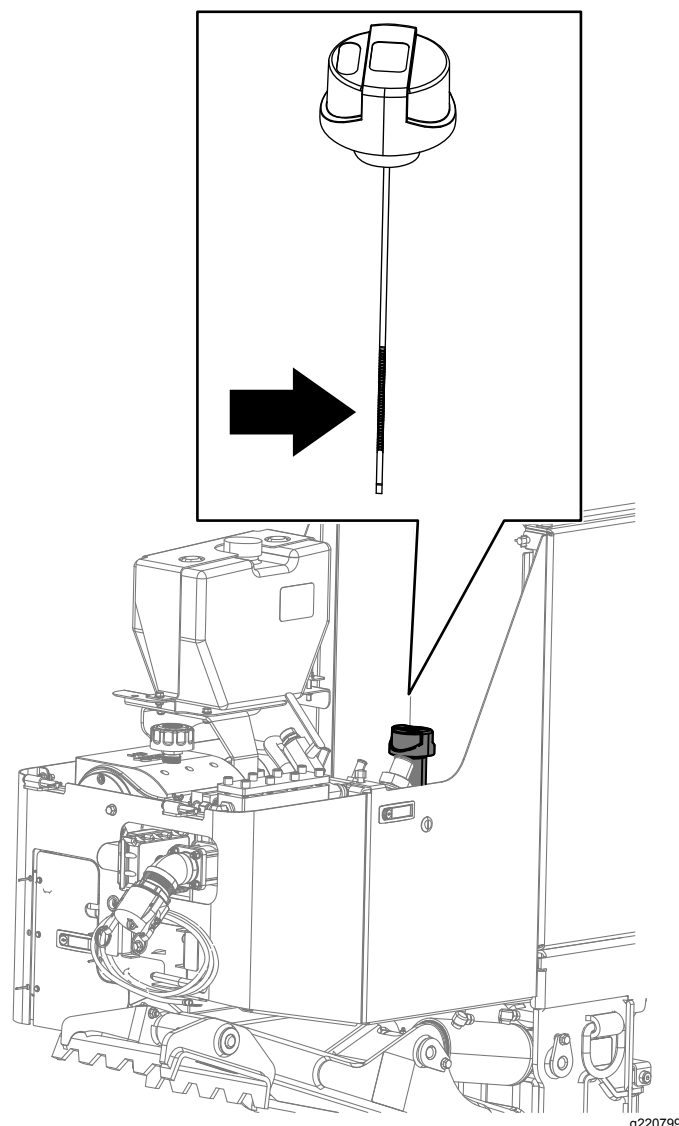

Figure 112
10. Place a drain pan under the filter and remove the filter (Figure 112).